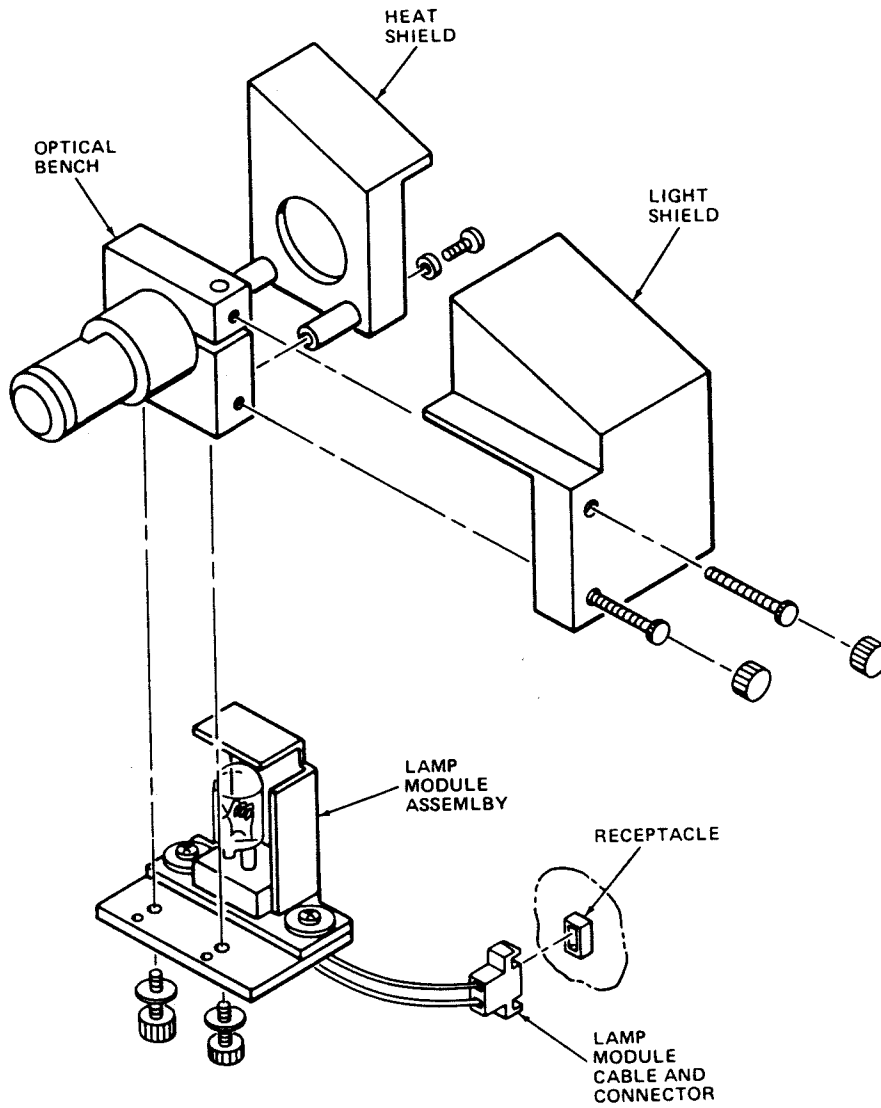

Figure 2-4. Replacing Lamp Module Assembly
- If the lamp module light output drops below a useable level, replace the lamp module as instructed in **Replacing Reader Lamp Module Assembly** (page 2-11). (See figure 2-4).
The quartz halogen lamp in the Reader has an expected life of approximately 2000 hours. If the lamp fails, replace the complete lamp module assembly as follows (see figure 2-4):